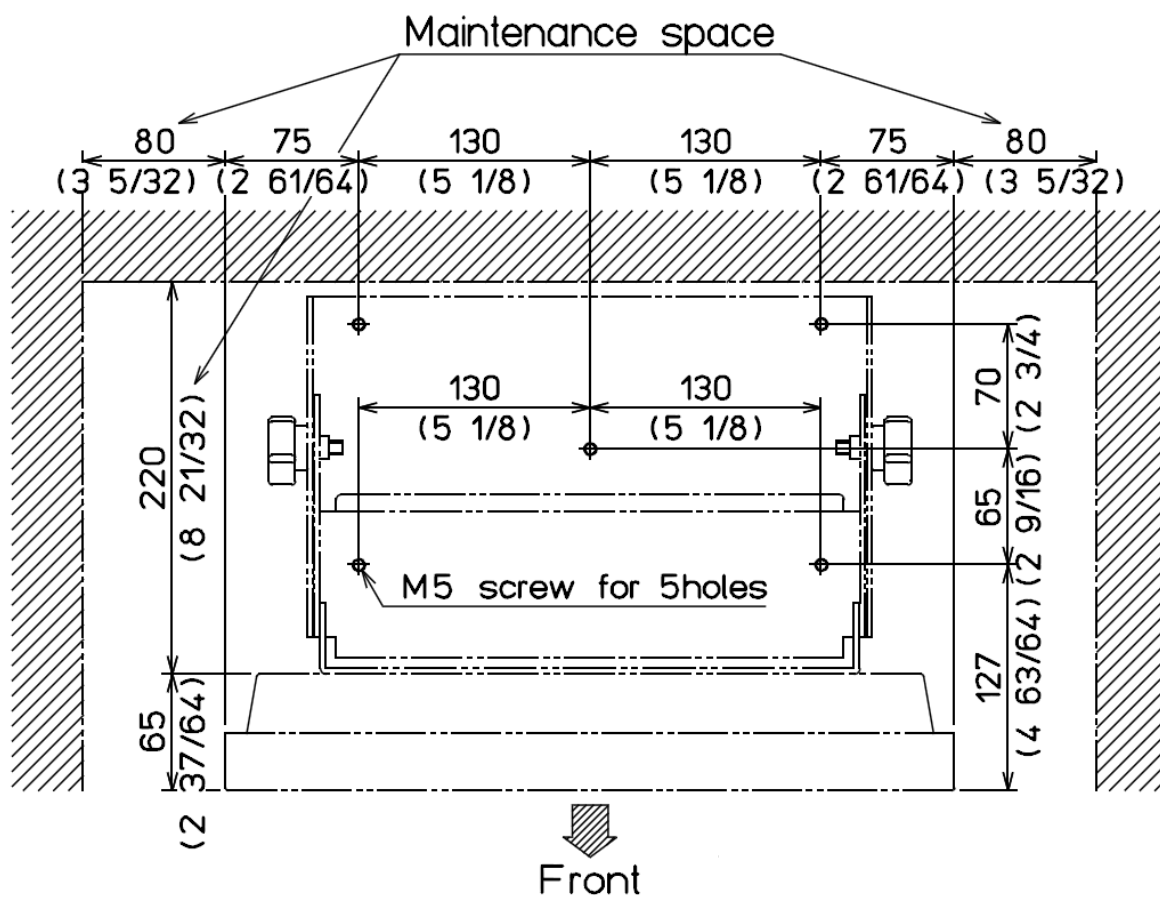

Fig. 1.8 Maintenance space
- (1) Decide the location to install the 17 inch LCD Monitor and keep the space for the maintenance works as shown in Fig. 1.8.
- (2) Mark the position where installation bracket are installed. (See Fig. 1.8)
- (3) Confirm that the installation bracket matches the marked position. If not matched, correct the marking position.
- (4) Install the installation bracket in the installing location (screw hole) and fix it with 5 tapping screws (5mm) (M5 or pan-head). (Prepare 5 mm screws suitable for thickness of installing location.)